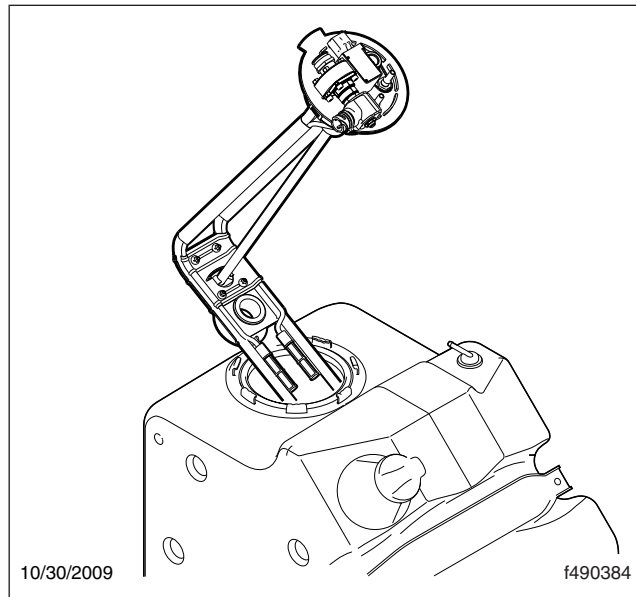

Fig. 7, Header Unit
11. Rotate the header lockring counter-clockwise to loosen it, then remove the lockring. See Fig. 7.
12. Remove the DEF header unit from the tank by pulling the assembly straight up. Then, tilt it to pull the horizontal end clear of the tank. See Fig. 7.